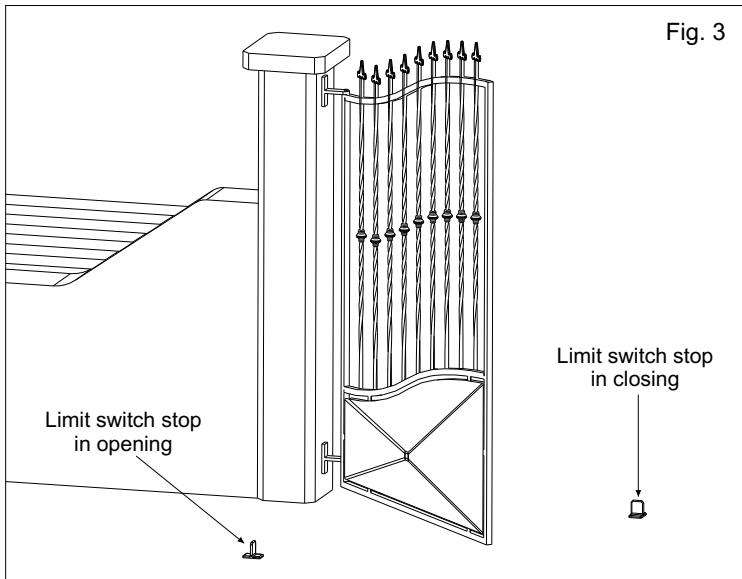

Fig. 3
- E. as the limit switches are not provided within the actuator, it is necessary to install mechanical limit switches stops to be fixed to the ground in closing and in opening (Fig. 3).